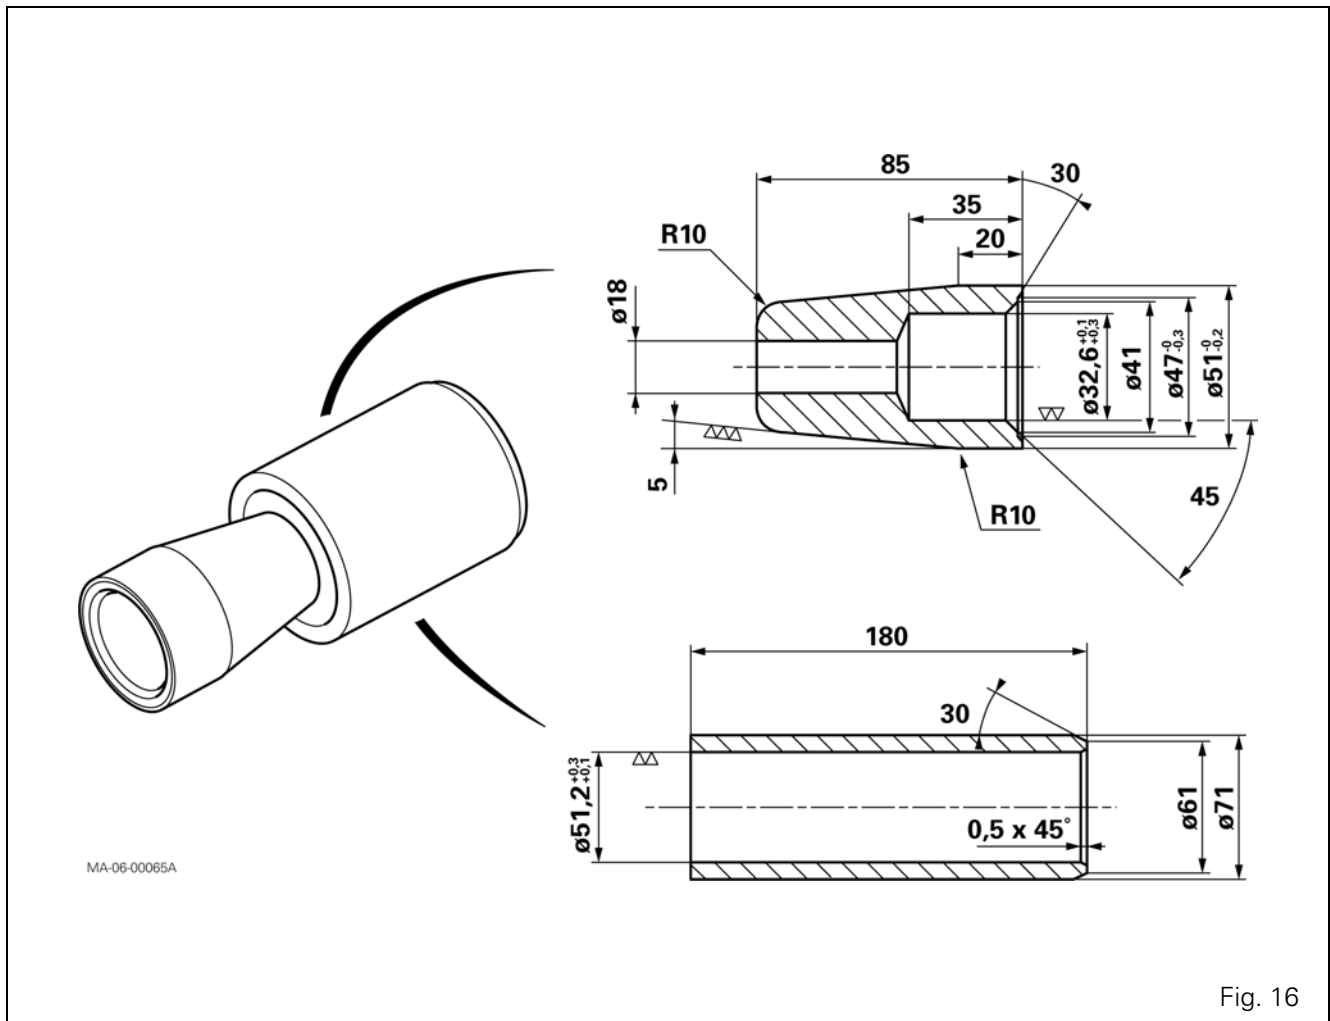

Fig. 16
- one and pusher for inserting snap ring (33) (Fig. 16)